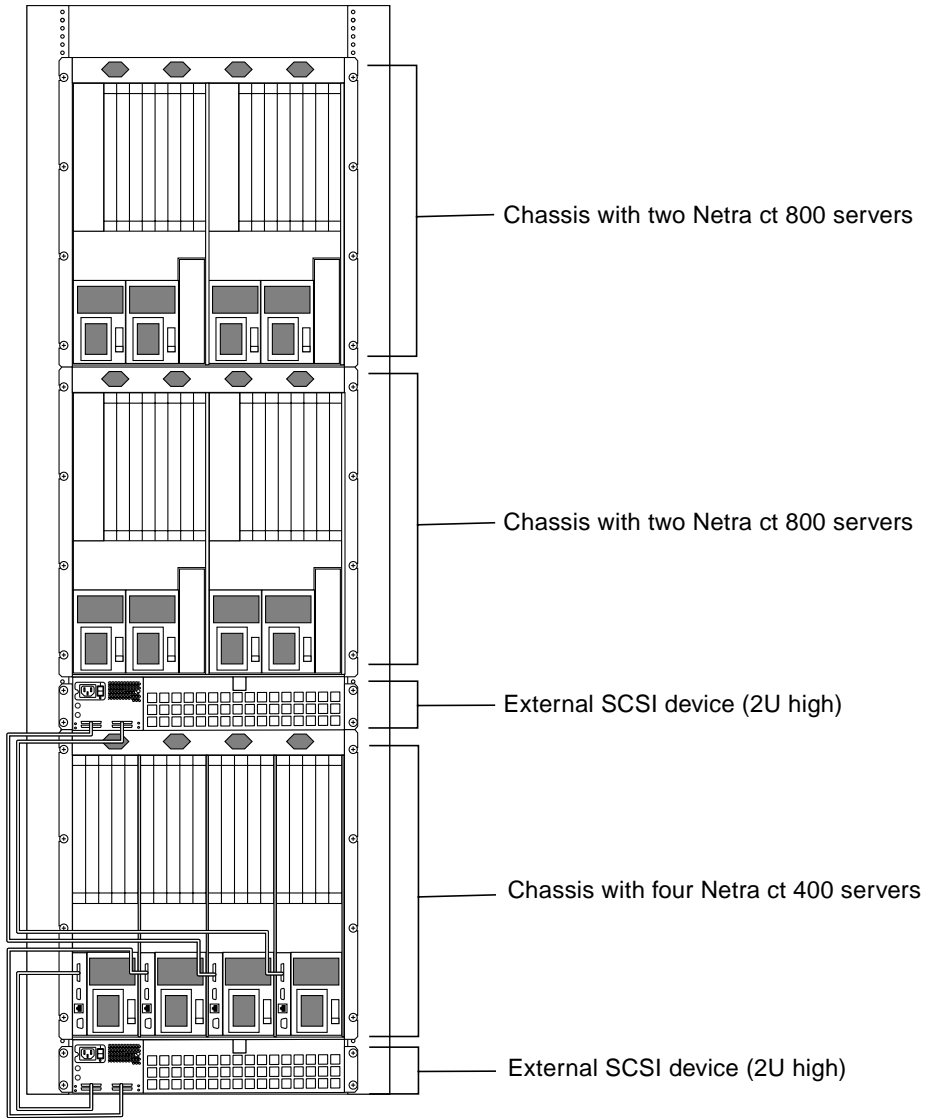

FIGURE 2-4 Example Configuration 2—Three Chassis, Two External SCSI Devices
- FIGURE 2-4—Example Configuration 2—Three Chassis, Two External SCSI Devices